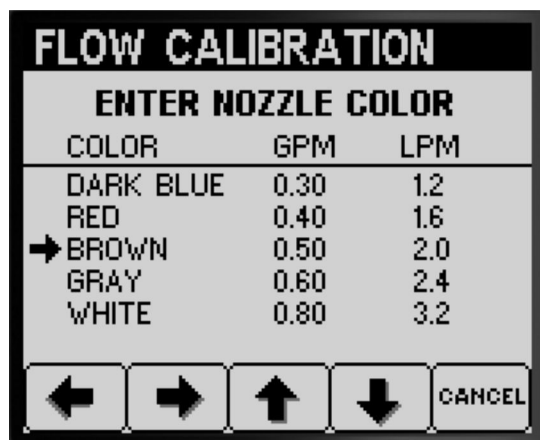

Figure 44
- For machines with nozzle colors that match the flow rates described in Figure 44, select the color of nozzles installed at the active spray position.
- For machines with nozzle colors that **do not match** the flow rates described in Figure 44, select the flow rate (gpm or lpm) of nozzles installed at the active spray position.
3. Press button 2 to advance to the next step (Figure 44).